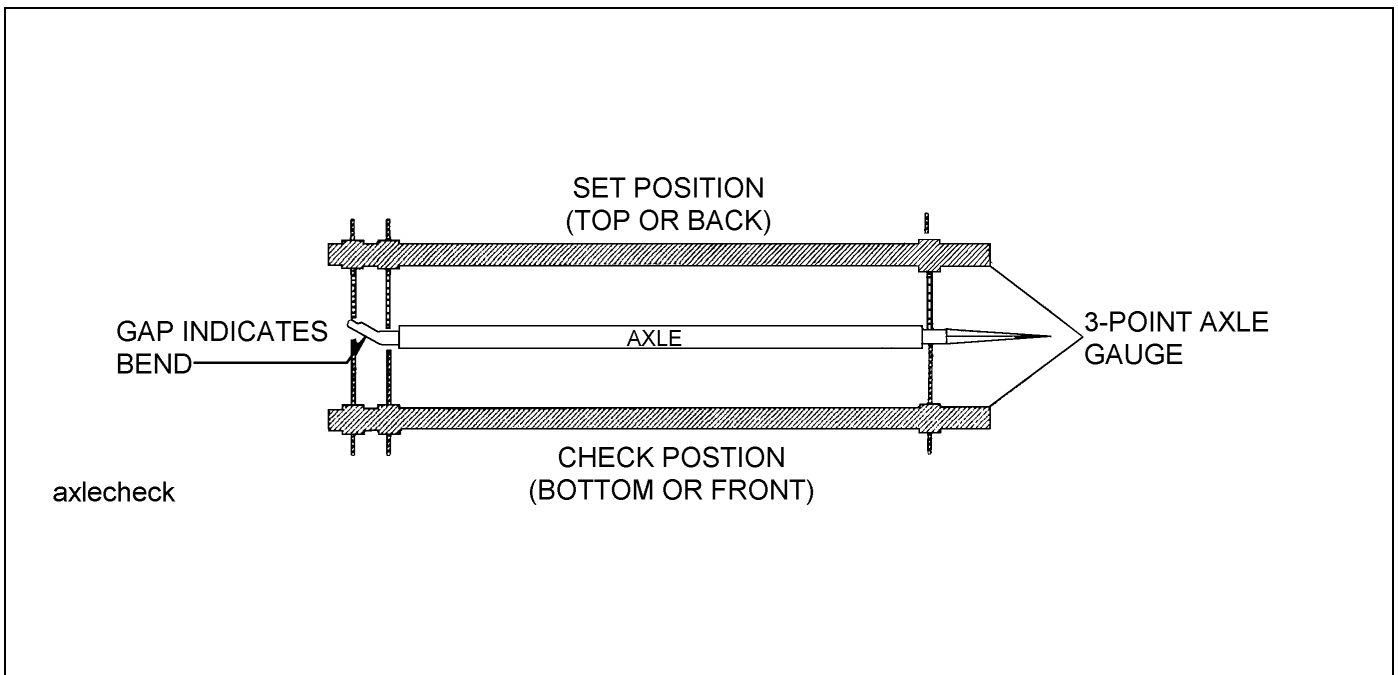

Figure 4-6: Checking Axle for Bend
2. Place a 3-point axle gauge against the front side of the axle, and adjust each axle gauge point to the axle. (Double point end against the inner and outer wheel bearing surfaces of the spindle being checked and the other point on the inner bearing surface on the other spindle.) **(See Figure 4-6.)**
3. Move the axle gauge and place against the back side of the axle. If either of the points of double point end fails to touch the axle surface, a bent spindle is evident. A point gap of .015" or more is considered excessive tire "toe" and the axle must be replaced **(See Figure 4-6.)**